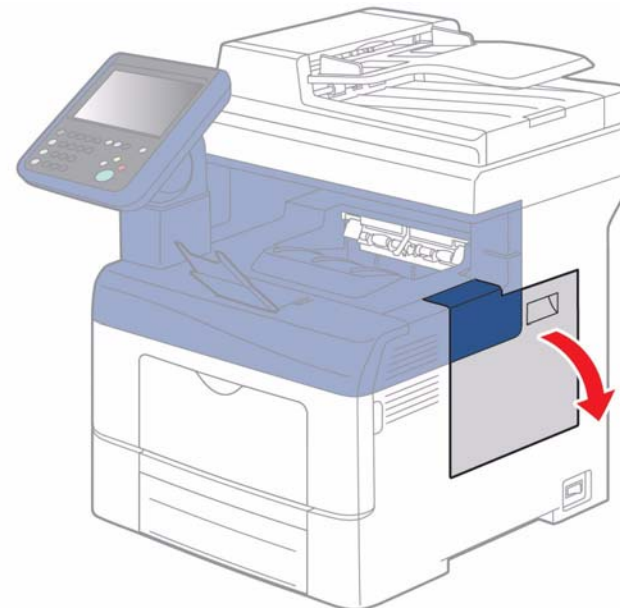

Figure 1 Open the Right Side Door
1. Open the right side door, Figure 1.